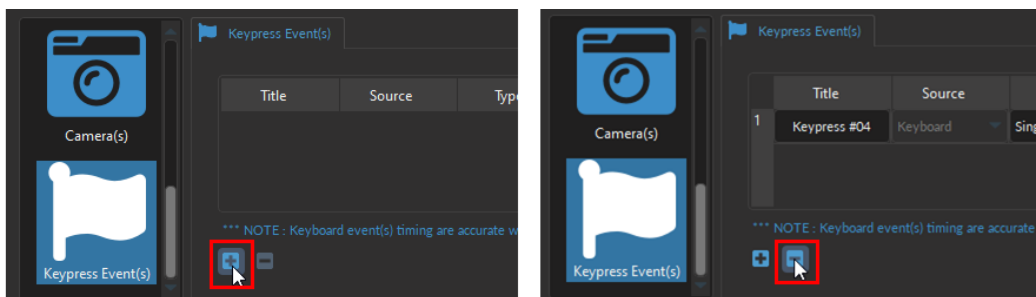

Figure 10.21: Adding and Removing Keypress Events
To add a new **Keypress Event**, select the + sign at the bottom of the window (Fig. 10.21, left). To remove a Keypress, use the - button (Fig. 10.21, right).
- **NOTE:** Selecting the + button (without clicking the *Add* button or the *Close* button of the *Channel Configuration* window) will **automatically** add the Keypress Event channel at the **bottom** of the Acquisition View window, below any pre-existing channels (Fig. 10.21).